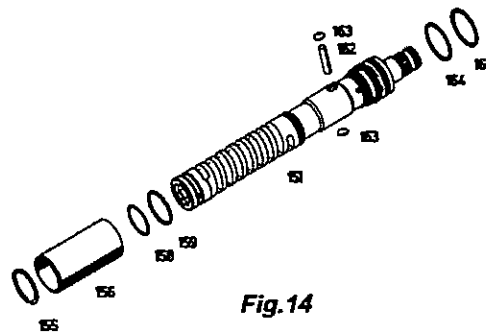

Fig.14
8.1 Unspring snap ring (155) and pull off sliding tube (156) (Fig.14).